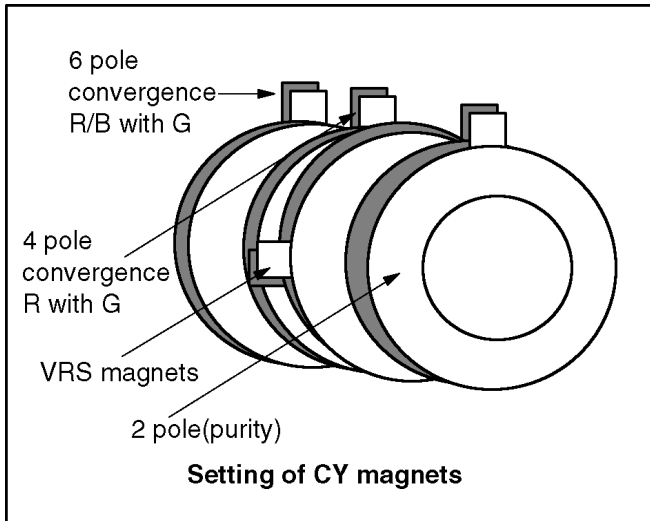

Fig. 1
- Set DY to CRT not to tilt up and down and left and right deflection. (Fig. 1)